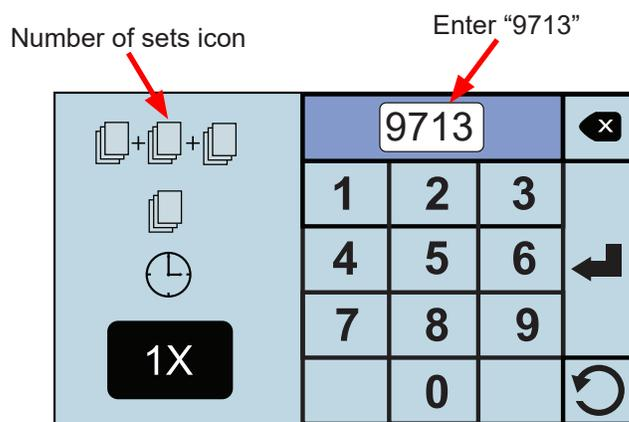

Fig. 53c
- Press the number of sets “” icon, it will turn blue when selected (Fig. 53c). Use the keypad to enter “9713” (Fig. 53c).